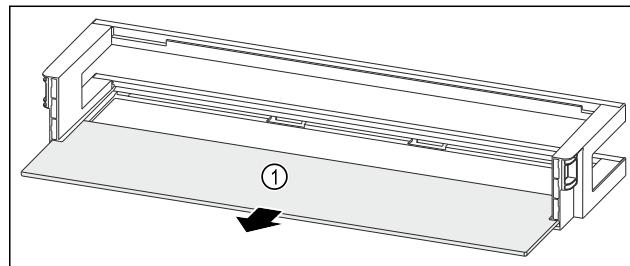

Fig. 81 Door racks with shelf
- Remove the shelf Fig. 81 (1).